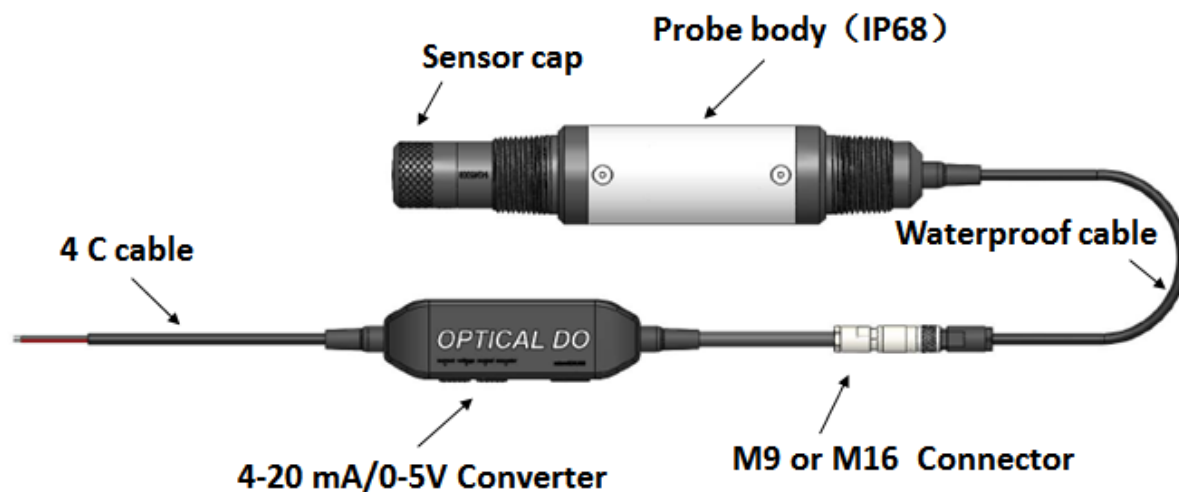

Fig. 1: AM-ODO Probe and Peripherals
1. The IP68 waterproof rating listed in this Installation and Operation Manual applies only to the probe itself. While the cable is considered water resistant (ref. Fig. 1 above), it should be protected from continuous water ingress in the long term. For example, in submersible applications, it should be protected by running it through a pipe using the 1" NPT fitting at the back-end of the probe. As also seen in Fig. 1, note that the converter is not waterproof due to its integral pressure sensor and should not be submersed or exposed to water spray.